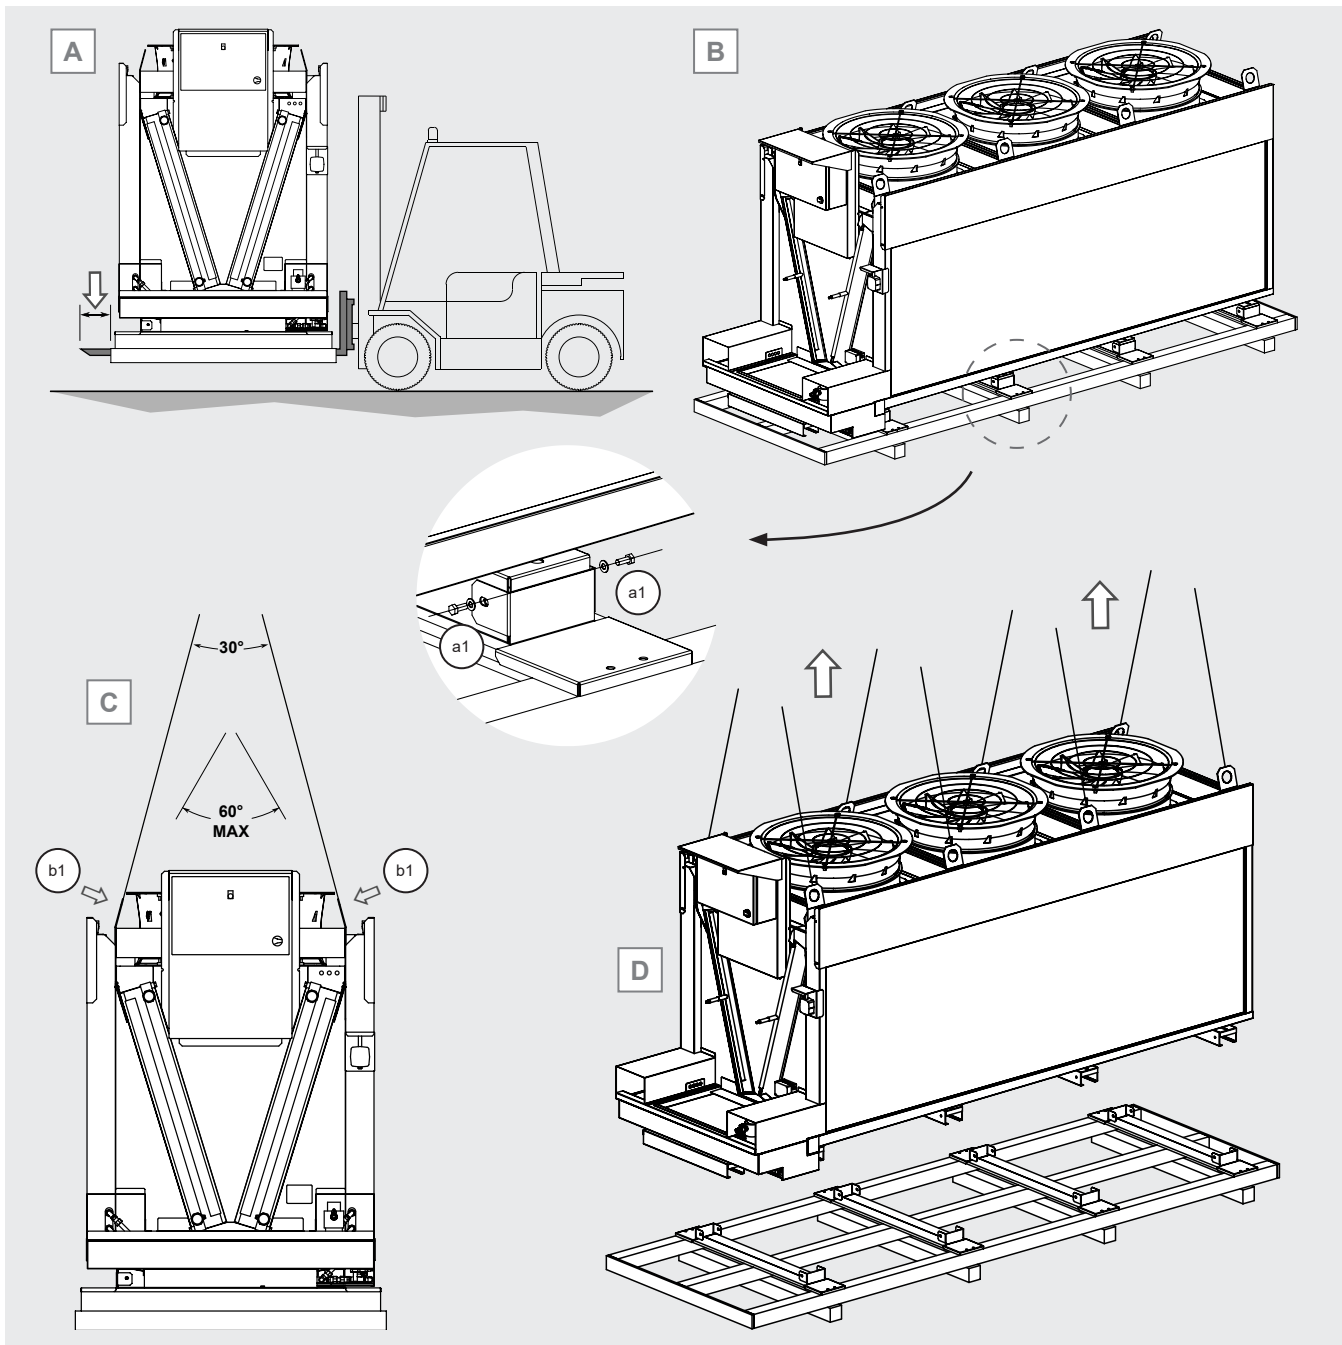

Figure 5
- 5.2 For handling with a forklift truck, the lifting brackets must be longer than the depth of the packaging and/or model, see Figure 5 A.
- 5.3.1 unscrew the screws (a1) that secure the model's support brackets to the transport pallet, see Figure 5 B;
- 5.3.2 Attach the crane or overhead crane to the lifting points (b1), see Figure 5 C;
- 5.3.3 lift the model and place it in its final location. Use all lifting points. See Figure 5 D.